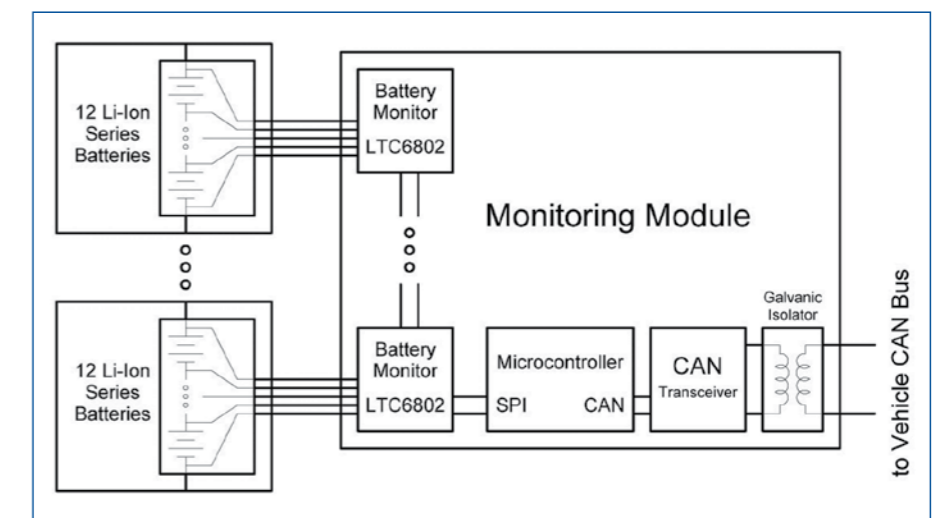

Figure 3: Single monitoring module with CAN gateway.
**Single Monitoring Module with CAN Gateway (Figure 3)**